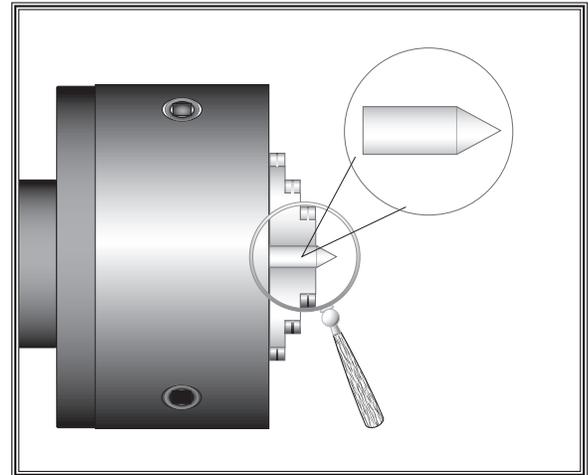

Figure 16. Finished dead center.
2. Make a dead center by turning a shoulder to make a shank. Flip the piece over in the chuck and turn a 60° point (see **Figure 16**). As long as it remains in the chuck, the point of your center will be accurate to the spindle axis.